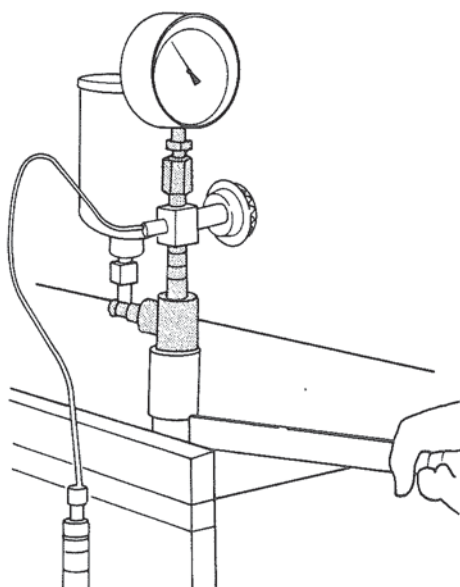

Figure 12. Testing Nozzle.
2. Pump handle at a rate of more than 60 times a minute and note starting pressure on gauge. Figure 12.